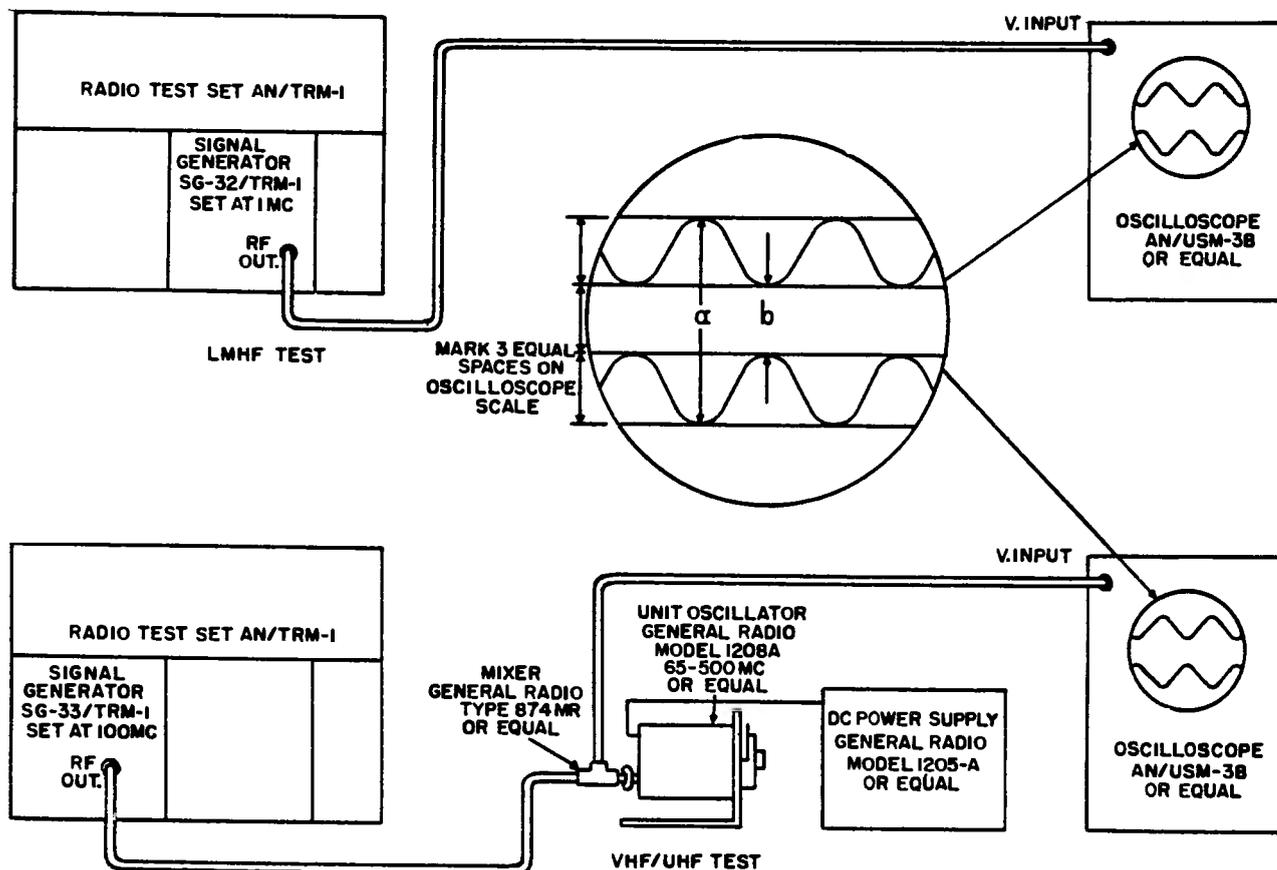

Figure 11-4. Set-up for Checking Percentage Modulation of Signal Generators SG-32/TRM-1 and SG-33/TRM-1
b. Connect the rf output of Signal Generator SG-32/TRM-1 to the vertical input of Oscilloscope AN/USM-38, or equal (see figure 11-4). Set the FREQ dial to read 1 mc and position MICROVOLTS step attenuator AT301 to 100K.
a. Synchronize the modulation envelope observed on the oscilloscope. Adjust the gain of the oscilloscope so that the maximum peaks of the modulation envelope coincide with the maximum markings and the minimum peaks coincide with the minimum markings, as illustrated in figure 11-4. If the peaks do not coincide, re-adjust SIG GEN % MOD control R154 and the vertical gain of the oscilloscope until both maximum and minimum peaks of the modulation envelope coincide with the maximum and minimum scale markings.
- a. Connect the rf output of Signal Generator SG-33/TRM-1 to a General Radio Mixer, Type 874MR. The mixer is connected to the General Radio Unit Oscillator, Type 1208A, and Oscilloscope AN/USM-38, or equal, as illustrated in figure 11-4.